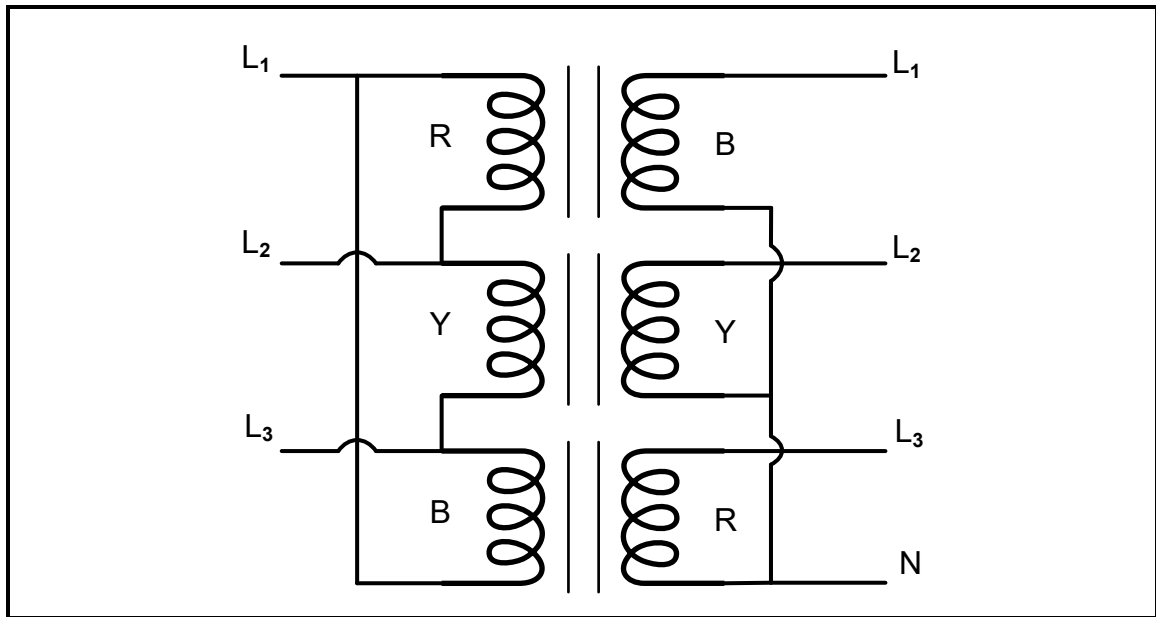

FIGURE 5.3: THREE SINGLE-PHASE TRANSFORMERS CONNECTED AS A THREE-PHASE TRANSFORMER
5.3 Refer to FIGURE 5.3 below and answer the questions that follow.
- 5.3.2 Name ONE application of the configuration used in FIGURE 5.3 above. (1)